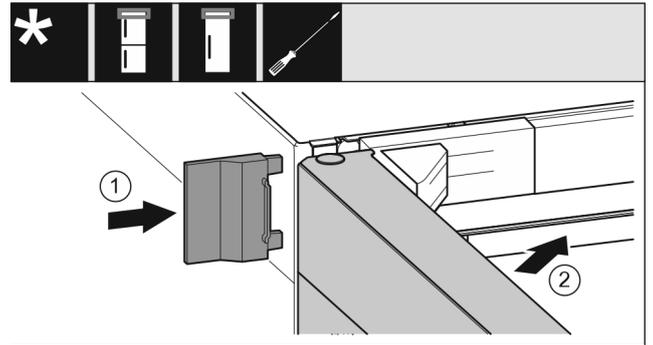

Fig. 26
- ▶ Push the outer cover Fig. 26 (1) on.
- ▶ Close the upper door Fig. 26 (2).